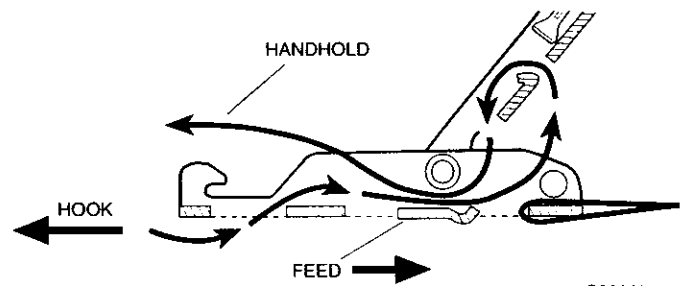

Fig. 8—Belt Threading
- b. Feed strapping through tension buckle (See Fig. 8).